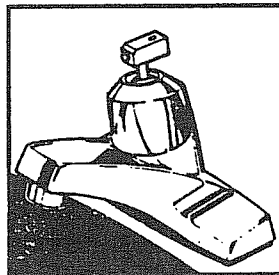

Fig. 11
3. Carefully note the position of the handle adapter (5) to insure correct reassembly. Loosen handle adapter set screw (6) with Allen wrench. Remove handle adapter. Figure 11.
4. Lift off decorative cap (7).
5. Loosen and remove brass hold down ring (8).